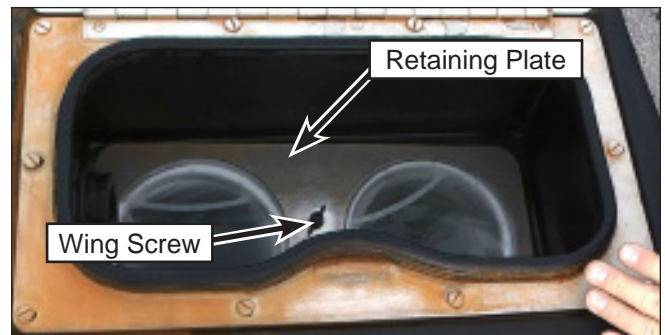

Figure 37: Retainer Plate Removal.
2. Unscrew the wing screw (Figure 37) that holds the filter retainer plate in place.